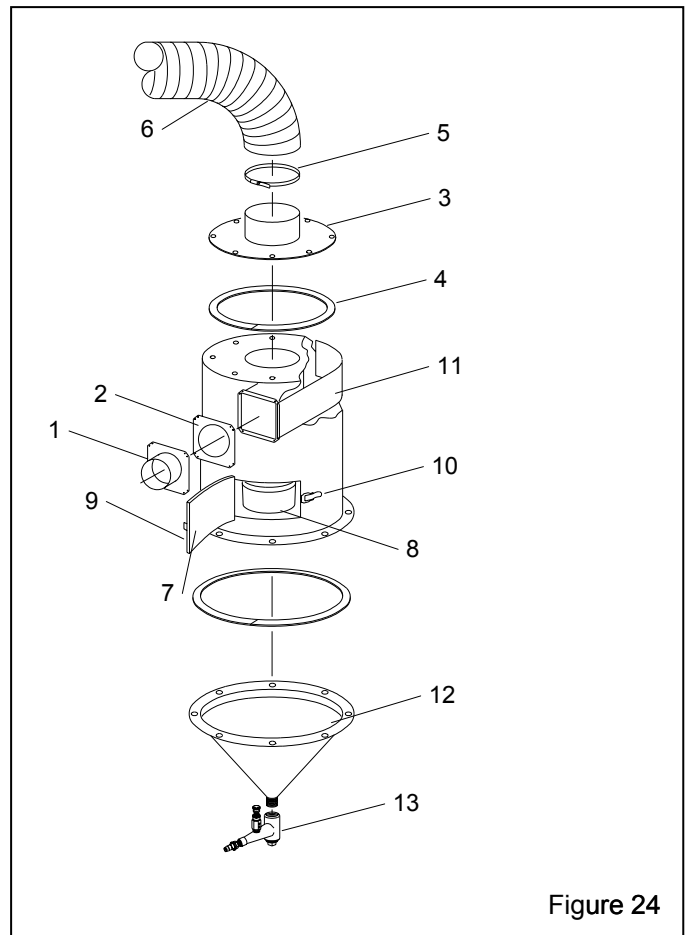

Figure 24
9.10 Reclaimer Assembly for Pulsar VI, Figure 24